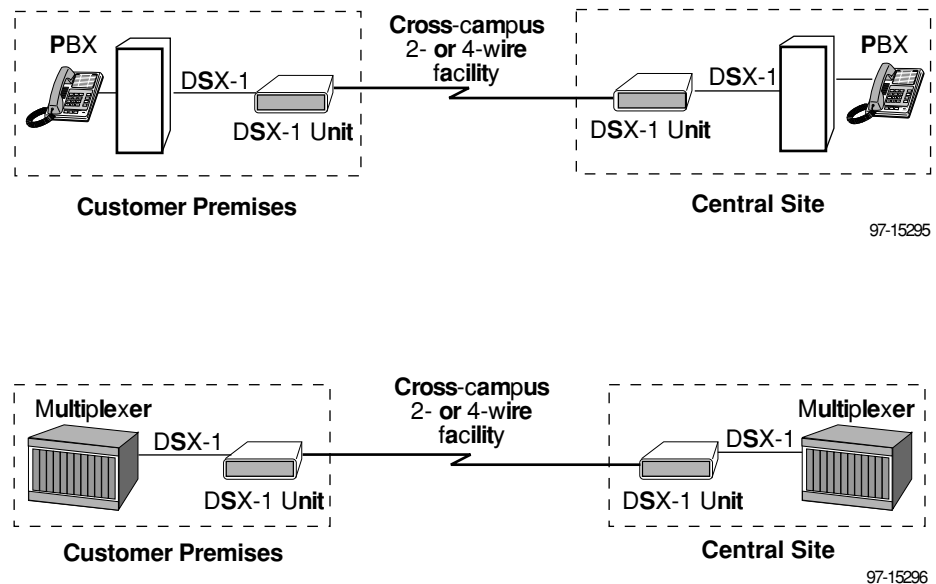

Figure 1-1. Campus Network Applications
Figure 1-1 shows two typical campus applications where remote PBXs or multiplexers are interconnected across a campus using two HotWire Model 7924 standalone units. In each pair, one unit is configured as a central site or central office (CO) unit and the other is the remote or customer premises (CP) unit.